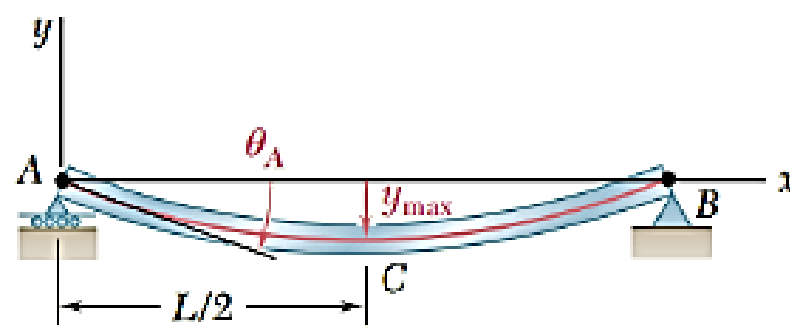

Fig. 3 Deformed elastic curve showing slope at A and maximum deflection at C.
b. Slope at A (Fig. 3). Substituting $x = 0$ into Eq. (4),
c. Maximum Deflection (Fig. 3). Because of the symmetry of the supports and loading, the maximum deflection occurs at point C where $x = \frac{1}{2}L$. Substituting into Eq. (5),